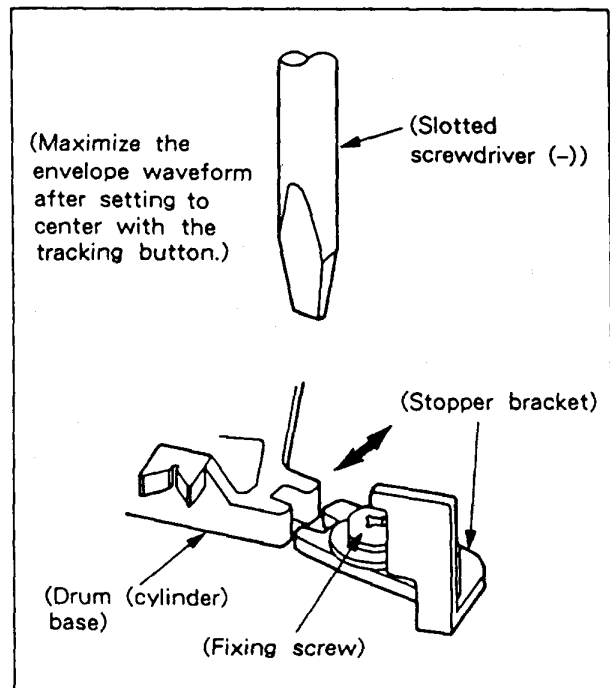

Fig. 6-4-6.
(2) Tracking (X Value) Adjustment (See Fig. 6-4-6.)